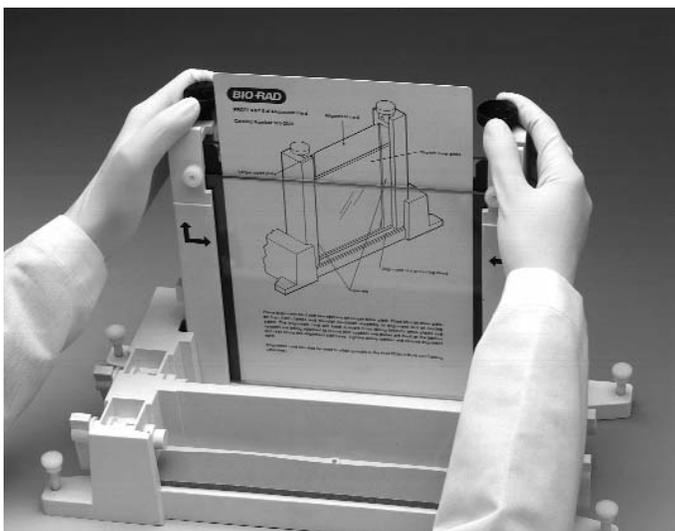

Fig. 5.4. Aligning spacers in the sandwich assembly.
5. Place the sandwich assembly in the alignment slot (the slot without cams) of the casting stand with the short glass plate forward (Figure 5.4). Loosen the sandwich clamps and insert an alignment card to keep the spacers parallel to the clamps.
6. Align the plates and spacers by simultaneously pushing inward on both clamps at the locating arrows while pushing down on the spacers with your thumbs. Tighten both clamps just enough to hold the sandwich in place. Pushing inward on both clamps at the locating arrows will insure that the spacers and glass plates are flush against the sides of the clamps (Figure 5.4).